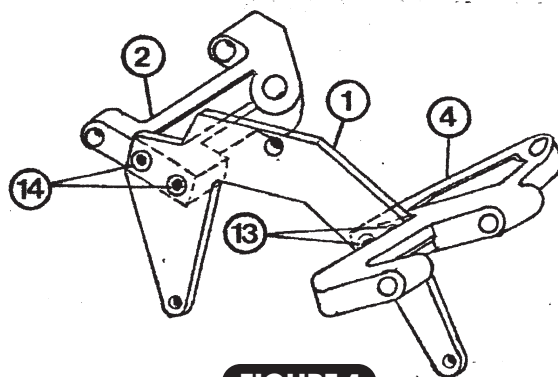

FIGURE 1
1. ASSEMBLE PARTS (1, 2 AND 3) USING ALLEN BOLTS (16 AND 17) AS FIGURE 1 SHOWS.